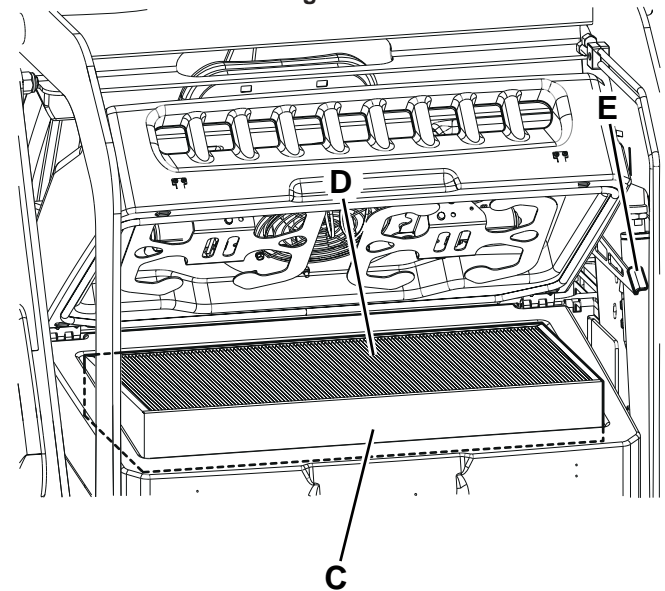

Figure 17
4. Lift the dust filter (C, Fig. 17) and remove it from the machine.
- Install the filter with the wire gauze upwards (D Fig. 17).